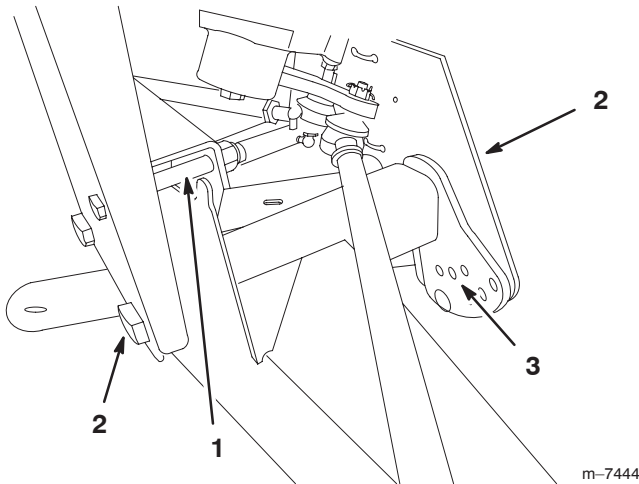

Figure 32
2. Remove the travel limiting bolt (Fig. 32).
3. Loosen the centering bolts in the front A-arm (Fig. 32).
4. Remove the ride height adjustment bolt (Fig. 32).
5. Rotate the front A-arm to the desired position (refer to the note below) and replace the ride height adjustment bolt (Fig. 32).
7. Replace the travel limiting bolt (Fig. 32).